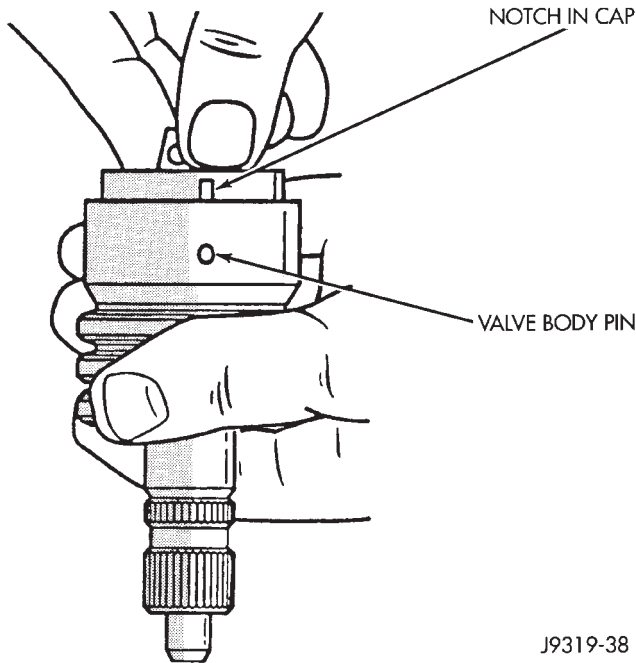

Fig. 15 Stub Shaft Installation
- (1) Install spool valve spool O-ring.
- (2) Install spool valve in valve body by pushing and rotating. Hole in spool valve for stub shaft pin must be accessible from opposite end of valve body.
- (3) Install stub shaft in valve spool and engage locating pin on stub shaft into spool valve hole (Fig. 15).